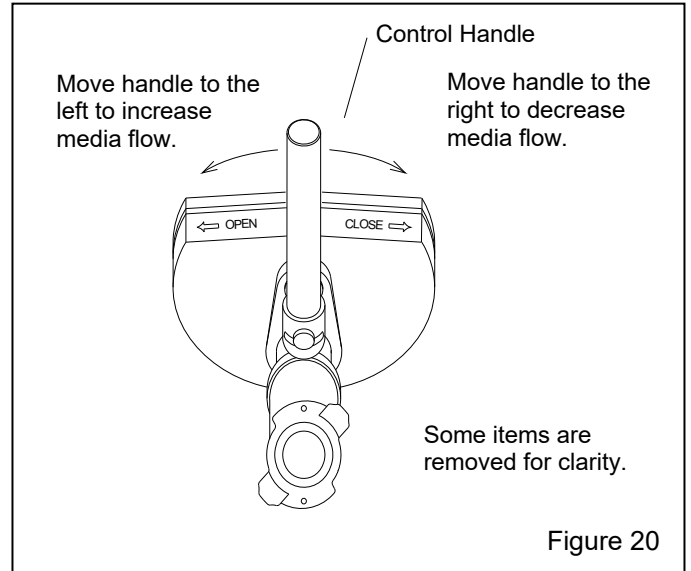

Figure 20
5.2 Media Metering (media flow) – Figure 20
These instructions and the illustration in Figure 20 are for a standard cabinet with Sentinel metering valve. Optional metering valves may function differently, but the process is similar. Refer to the metering valve operations manual for the operation of the valve provided.